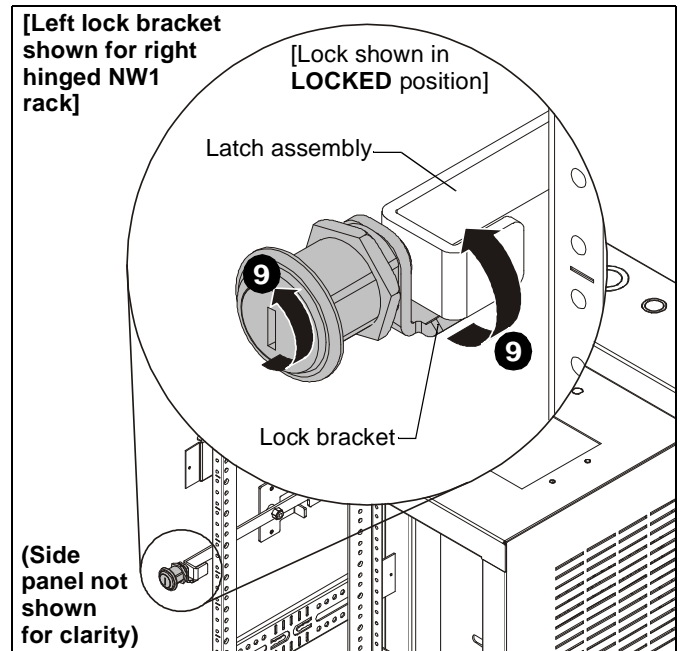

Figure 3
8. Ensure that lock bracket is situated under the end of the latch assembly to prevent NW1 rack from opening. (See Figure 3)
9. Turn key in lock to move lock bracket from under latch assembly, and to unlock NW1 rack. (See Figure 3)